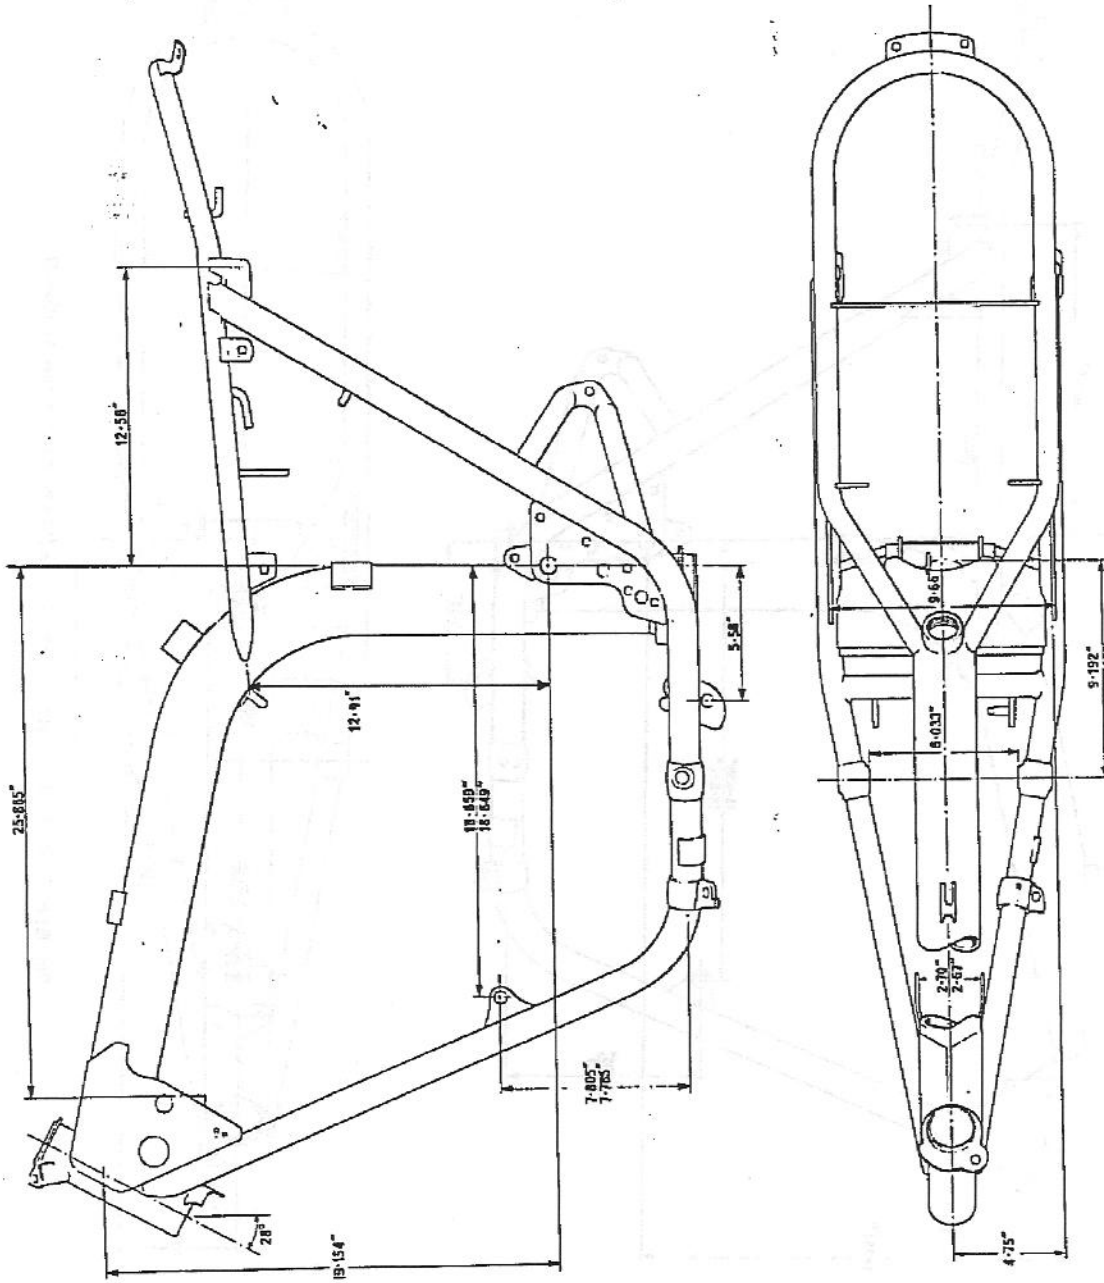

Fig. E12(B). Basic frame dimensions (After Engine No. CG50414)
Note Fig. E12(A) and E12(B) for the critical dimensions of the frame. If possible check these if any doubt is revealed.